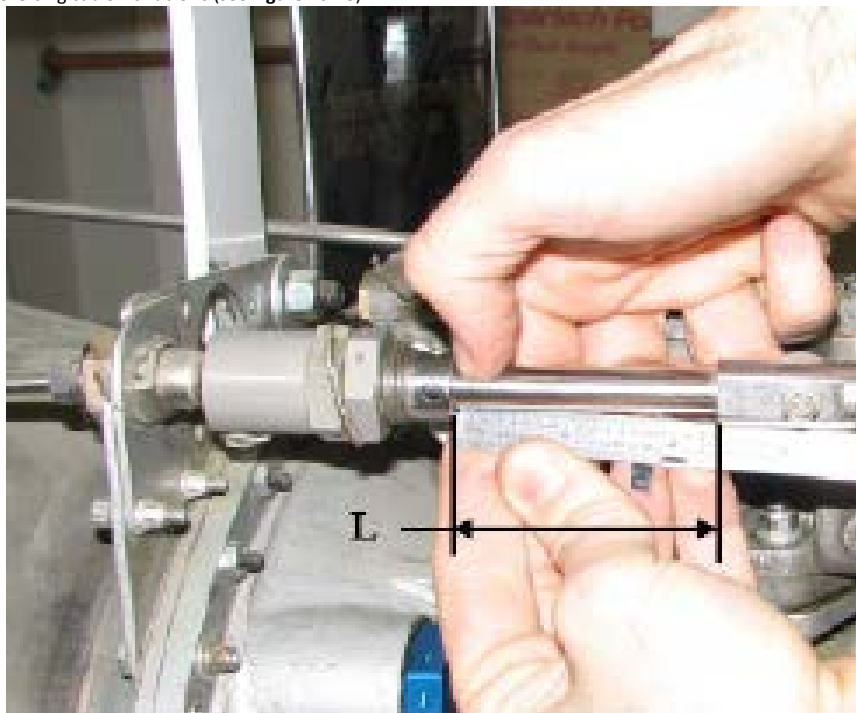

Figure 76-28 - Measure Distance "L" as Shown
- E. Returning to the forward end of the reversing cable, measure the distance from the forward edge of the low pitch stop adjuster to the aft edge of the reversing cable front clevis (see Figure 76-28).